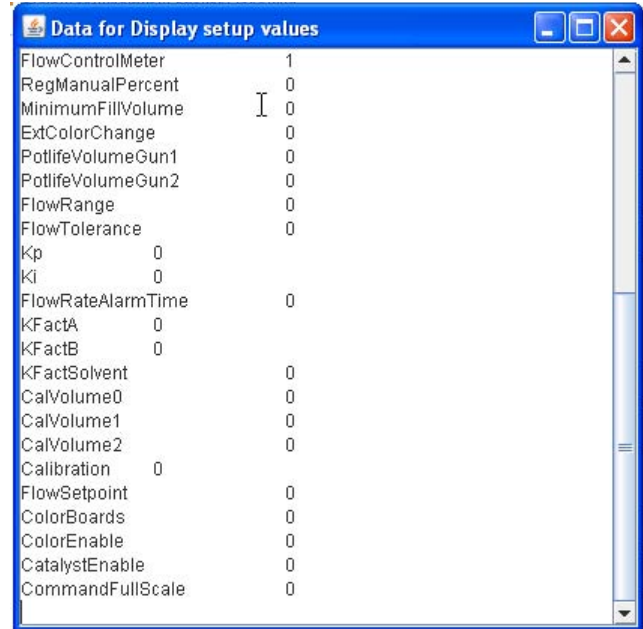

FIG. 9: Display Set Up
**Display setup values** - indicates what values are currently being used for the system. Allows the operator to verify that the right values are being used. See FIG. 9.